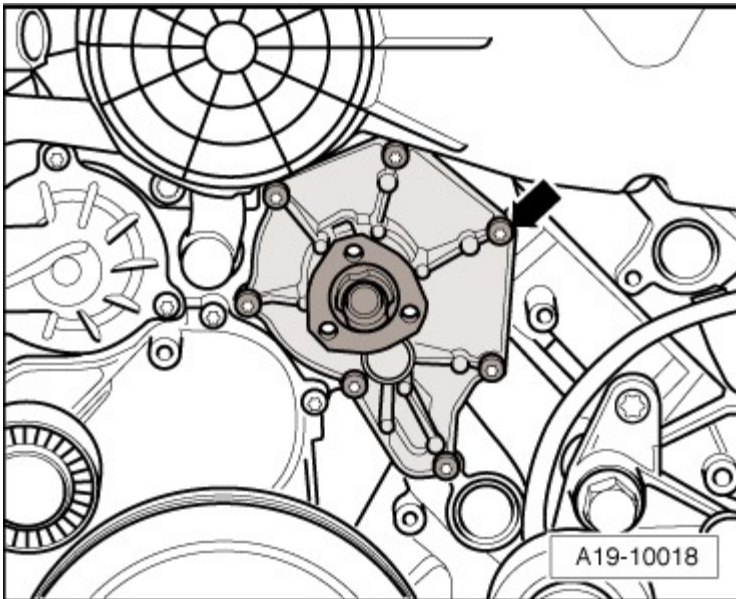

Fig. 2: Identifying Coolant Pump Bolts -Arrows-
- Tightening specification and sequence, refer to **Fig. 2**